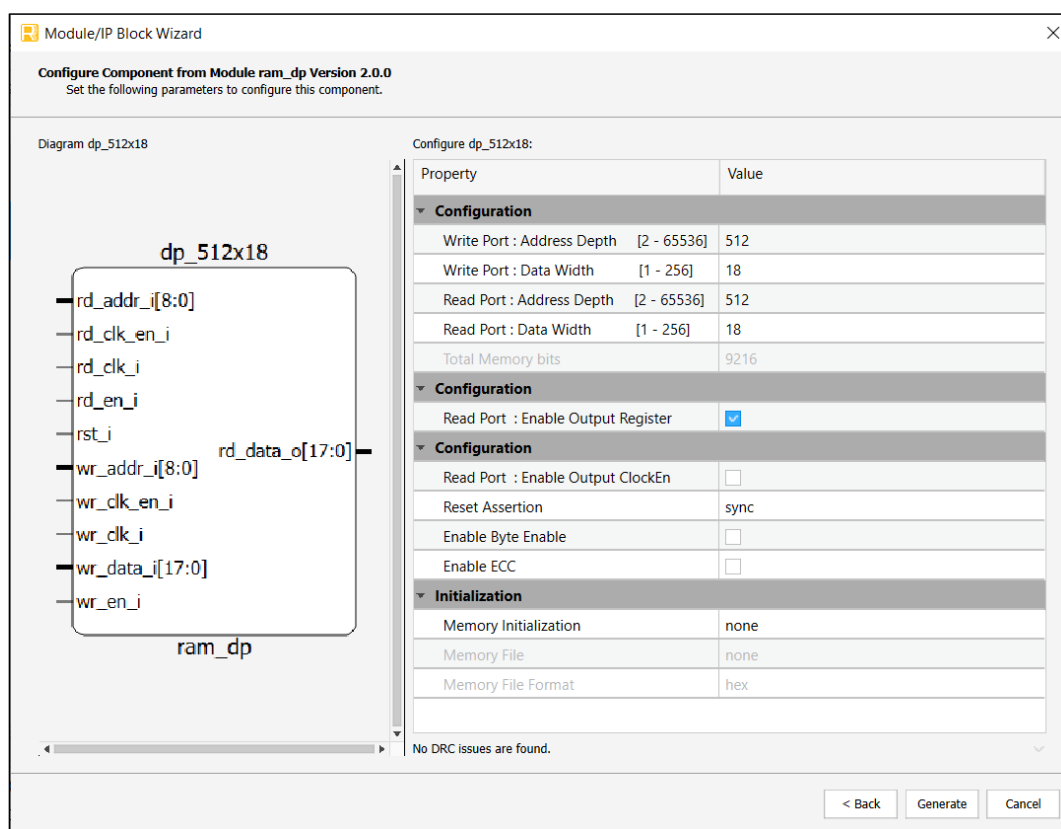

Figure 3.3. Example: Generating RAM_DP Module Customization
3. In the module's dialog box of the **Module/IP Block Wizard** window, customize the EBR-based Pseudo Dual Port RAM using drop-down menus and check boxes as shown in Figure 3.3.